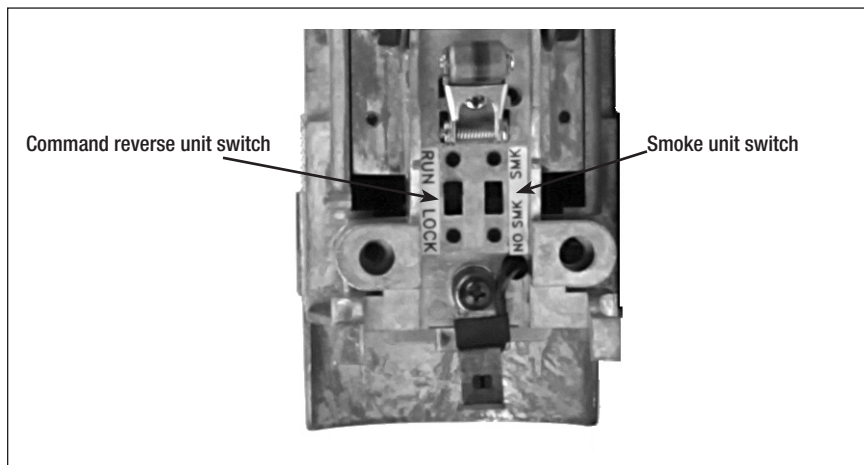

Figure 3. Switch location
Your locomotive is equipped with a smoke generator that produces safe, clean white smoke during operation if the smoke unit switch is in the ON position. Refer to Figure 3 on page 7 for the location of the switch.
To “lock” your locomotive into forward operation only, you can deactivate the reverse unit’s sequencing function. Follow the steps below and refer to Figure 3 for the location of the reverse unit switch.
2. Slide the reverse unit switch to the LOCK position. See Figure 3 for the location of this switch. At this point, the locomotive is “locked” into forward direction operation.